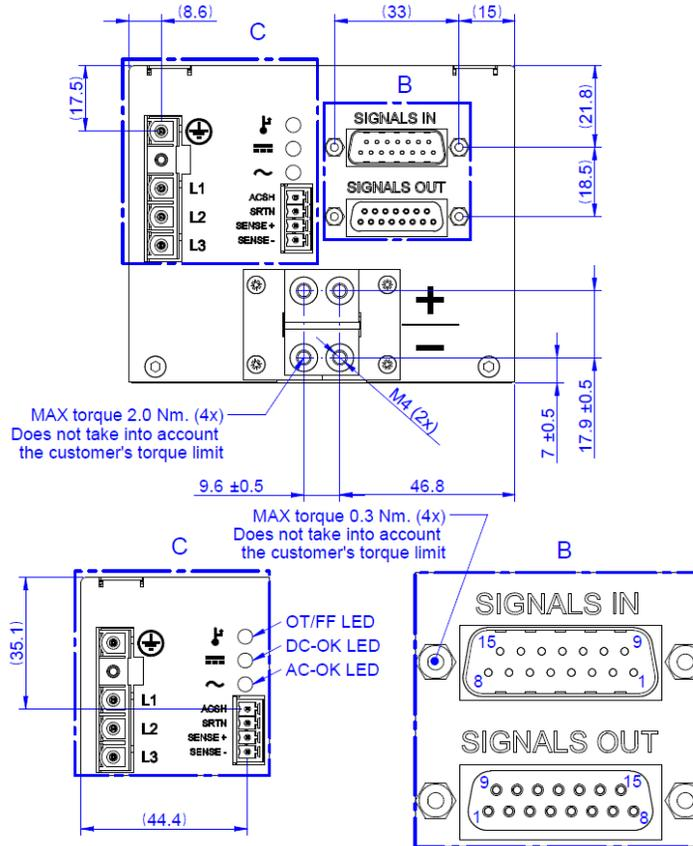

Fig. 1 Rear View - Connectors Position
Connector type: Bus-bar see Fig. 1
**Note:** Maximal mounting torque for the BUS-BARS is 2.0 Nm (please see the Fig. 1)
3 Maximal mounting torque for the screw locks of the signal connector is 0.3 Nm (please see the Fig. 1)
- 3 Maximal mounting torque for the screw locks of the signal connector is 0.3 Nm (*please see the Fig. 1*)